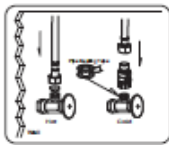

Figure 1
2. Connect flexible hose tails to water inlet, using Pipe Sealing Tape (Figure 1)